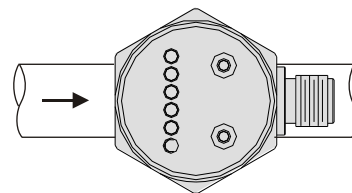

Fig. 4
4. SP must be screwed tightly to avoid liquid leakage from leaking out. It can be installed in any angle. For best sensitivity and response speed, please refer to the installation in (Fig. 4)